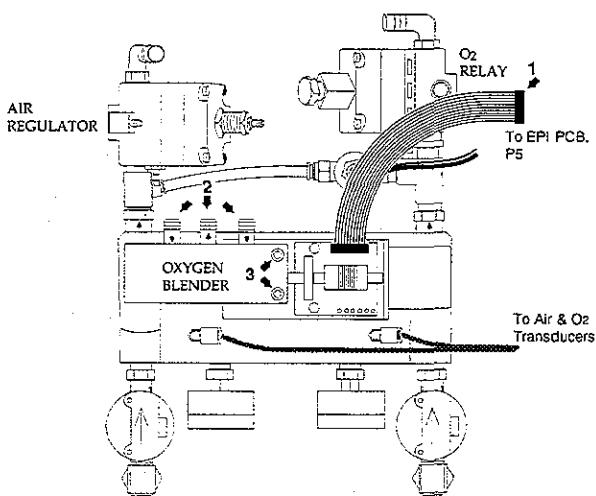

Figure 8-3
1. Remove the ribbon cable (Figure 8-3, Ref. 1) at its connection on the EPI PCB.
2. Mark or tag the PVC hoses (Figure 8-3, Ref. 2) coming from the Blender and remove.
3. Remove the two mounting screws (Figure 8-3, Ref. 3) and remove the Blender from the front of the ventilator.